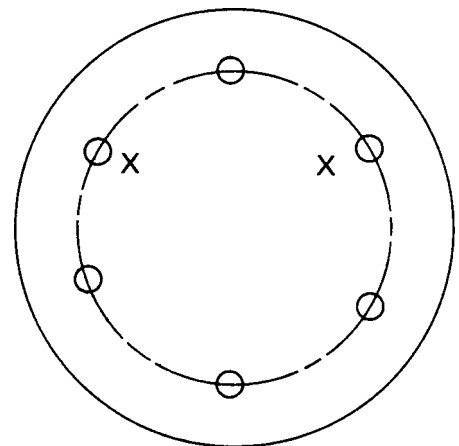

Fig. 8 - Location of Alignment - Stud Holes
- Position the generator coupling and engine flywheel so that the holes, indicated by an "X" on Figure 8, are horizontal.